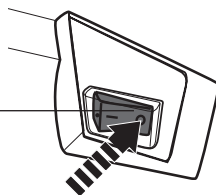

Fig. 6
- > Press the on / off switch (4) to its off position **O** to switch the product off (Fig. 6).